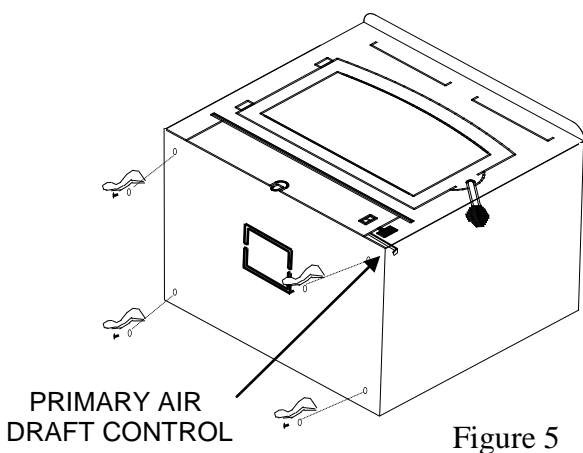

Figure 5
3. Check primary air draft control to ensure that it slides freely. (See Figure 5).
5. **(Leg Kit):** If legs are to be used, obtain four legs, attach legs to holes in bottom of unit with bolts and washers supplied with leg kit. (See Figure 5).